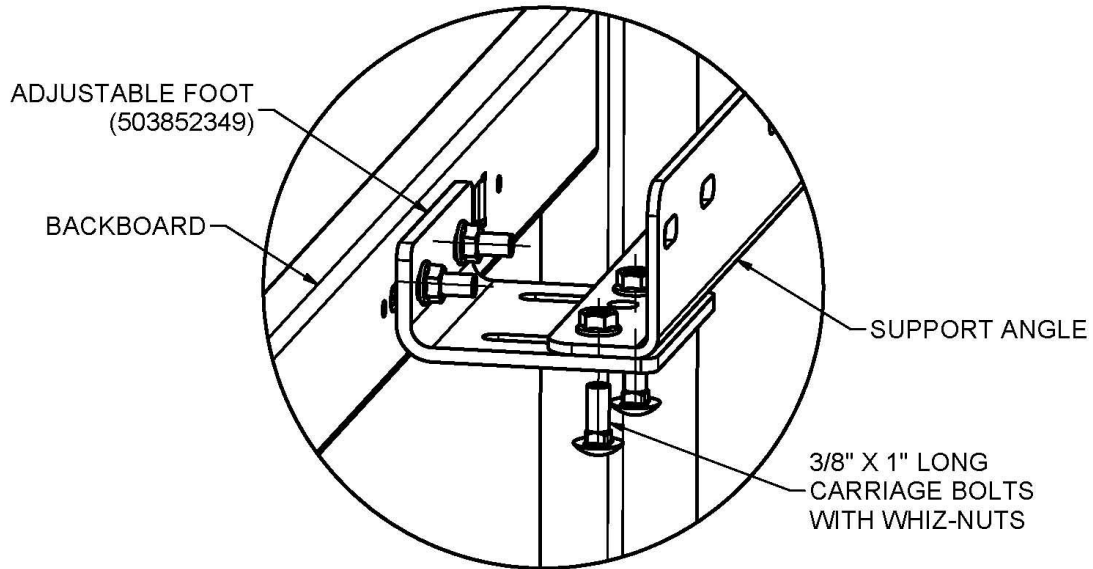

FIGURE 1: use for: **1301B**, **1270B**, **1260B**, **1272B**, **1401B**, **1370B**, **AFRG48**
6.) There are several ways to mount the boards to the height adjuster using the backboard angles and the adjustable feet. See figures 1, 2, 3 and 4. Reference board numbers under each illustration.